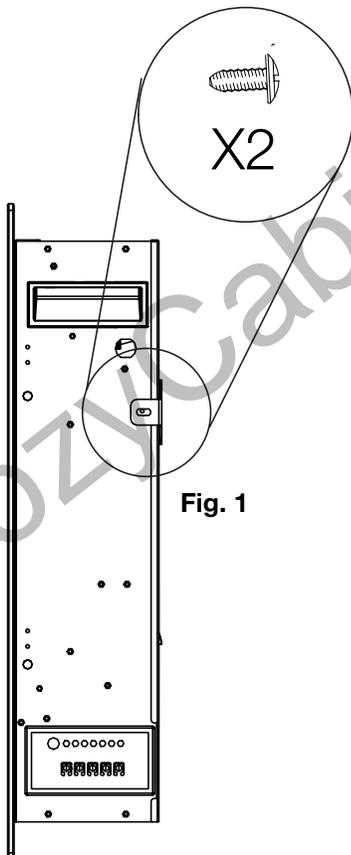

Fig. 1
- F. Secure the appliance to the wall bracket using 2 metal screws (Fig. 1).